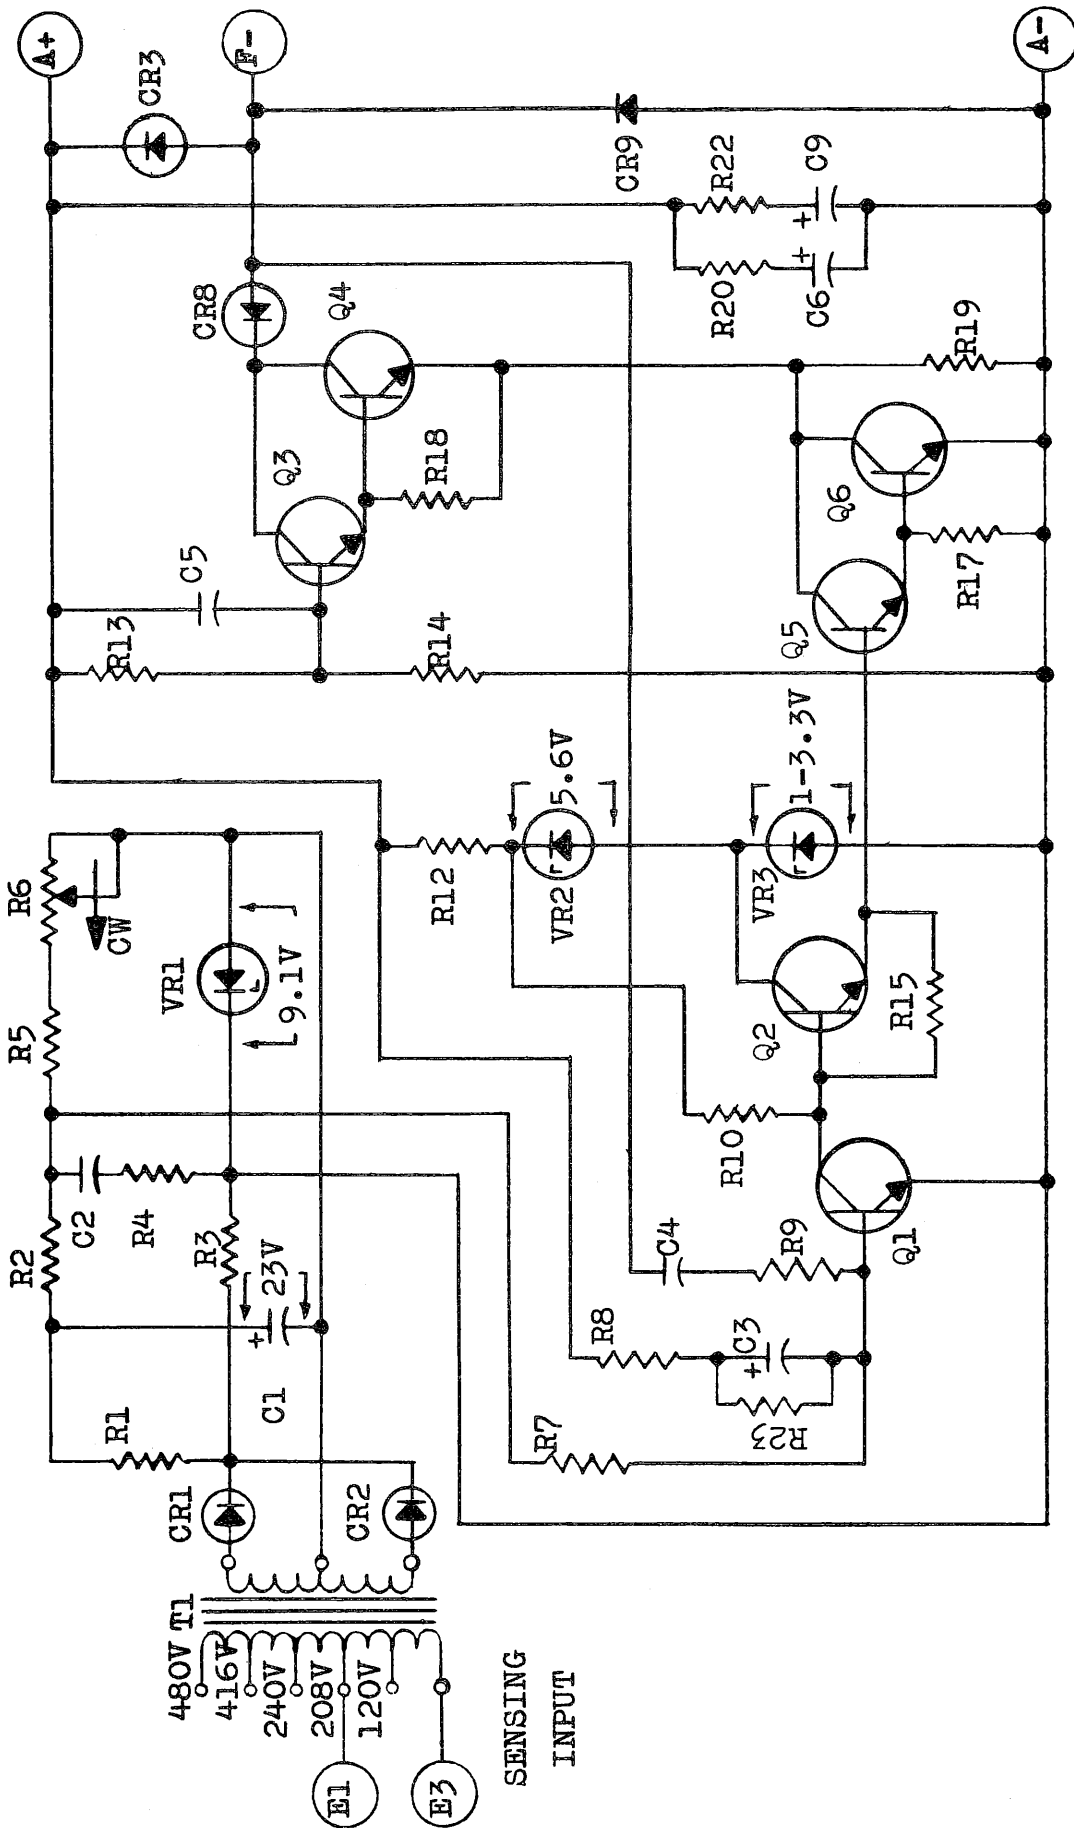

FIGURE 1 - SCHEMATIC DIAGRAM
2.1.1 The regulator acts as an automatic field rheostat which precisely controls the field current in order to maintain a constant output voltage of the ac generator. Initially current flowing through resistors R12 and R10 causes current to flow in transistors Q2, Q3, Q4, Q5, and Q6 (see Figure 1). The ac generator voltage at terminals E1 and E3 in the sensing circuit is stepped down, rectified and filtered to form a dc sensing signal. A fraction of this signal is compared to the voltage across reference diode VR1 to develop an error signal. When the ac generator voltage becomes too high, the sensing circuit produces a positive error signal which is applied to the base of the transistor Q1. This causes an increase in the collector current of Q1 and a corresponding decrease in the current through Q2, Q3, Q4, Q5, and Q6. To minimize power loss, the power transistors operate in a switching manner in variable turn-on duty cycles.
4.2.1 Simple repairs to the unit can be made following the schematic diagram (Figure 1). Because of the complexity of the printed circuit board in the regulator, complicated repairs should be performed only by the manufacturer. It is recommended that a spare unit be stocked to avoid shut-down time in the event the original unit requires repair. Basler Electric Company maintains a supply of the units and components parts in stock at all times.